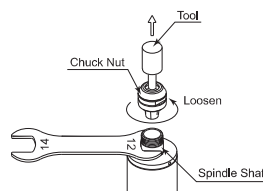

Fig. 4
- Remove the tool according to the section "5. CHANGING THE TOOL" procedure above and remove chuck nut assembly. (Fig. 4)